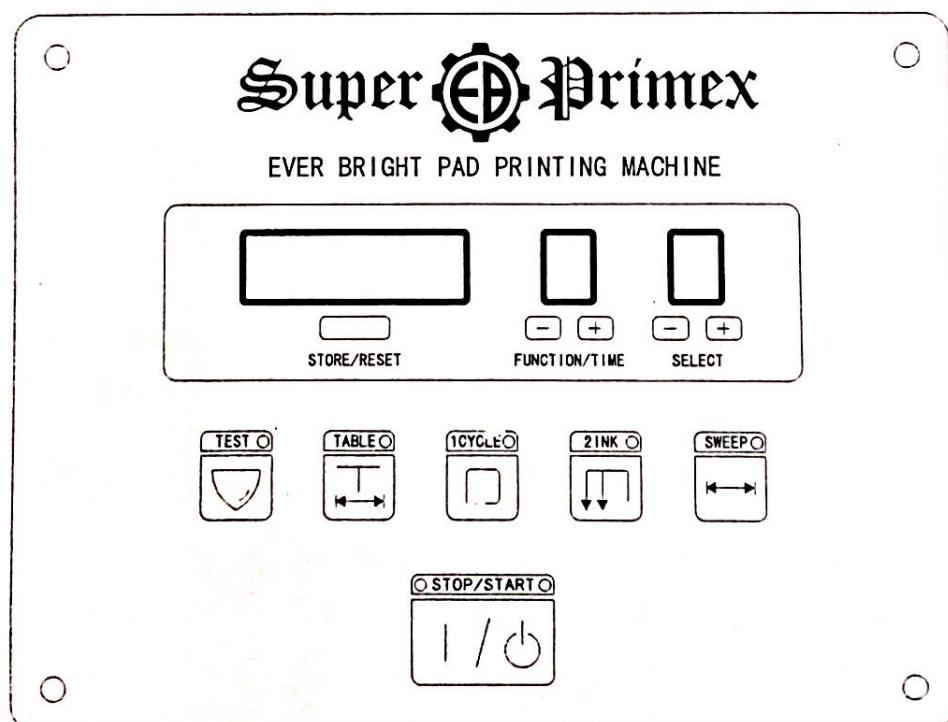

Figure 7
C. Control Panel (Figure 7)
4. Push "SWEEP" (Figure 7) to make ink cup move lengthwise. If ink can not be scraped clean, you should adjust ink cup knob assembly down properly.